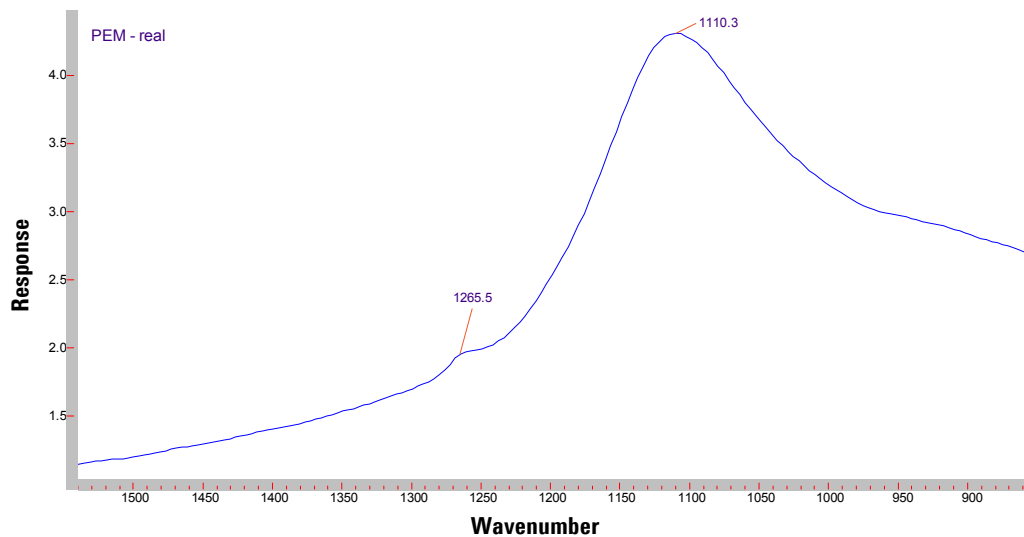

Figure 9. Ratio of AC spectrum ($I_p - I_s$) to DC spectrum ($I_p + I_s$)
- 14** Zoom in on Spectrum 5 between approximately 1500 and 900 cm^{-1} . The spectrum should look similar to Figure 9 with a large broad peak around $\sim 1110 \text{ cm}^{-1}$ and a weaker peak around $\sim 1265 \text{ cm}^{-1}$.
- 12** The resultant spectrum should look similar to that shown in Figure 9 on Page 31.